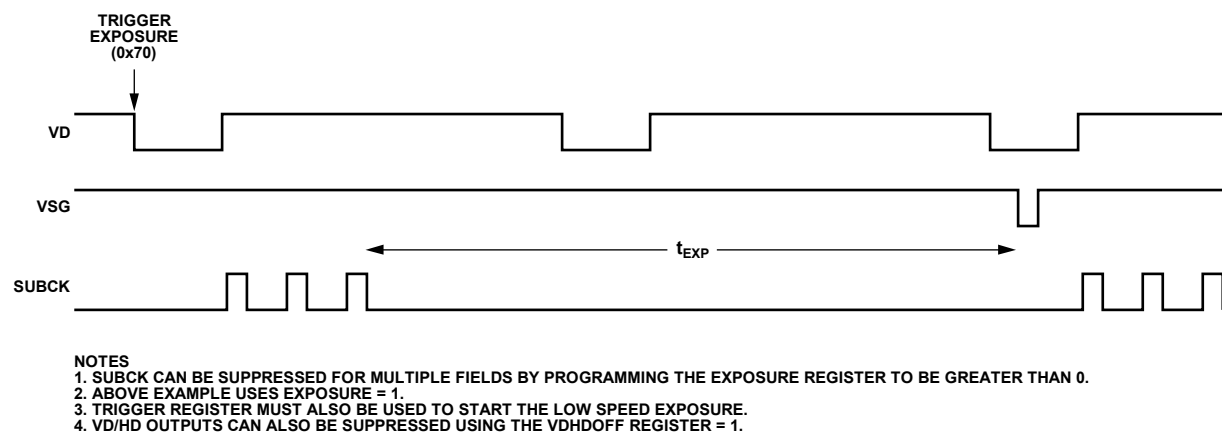

Figure 71. Low Speed SUBCK Operation
Normal and high precision shutter operations are used when the exposure time is less than 1 field. For exposure times greater than 1 field, the low speed (LS) shutter features can be used. The AD9927 includes a field counter (primary field counter) to regulate long exposure times. The primary field counter must be activated (Address 0x70) to serve as the trigger for the LS operation. The durations of the LS exposure and read are specified by the SGMASK\_NUM and SUBCKMASK\_NUM register (Address 0x74), respectively. As shown in Figure 71, this mode suppresses the SUBCK and VSG outputs for up to 8192 fields (VD periods).
Optionally, if the SUBCKMASK\_SKIP1 register is enabled, the AD9927 ignores the first VSG and SUBCK masks in the subsequent fields. This is generally desired so that the exposure time begins in the field after the exposure operation is initiated. Figure 71 shows operation with SUBCKMASK\_SKIP1 = 1.